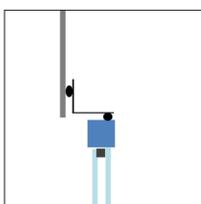

Fig 1. Membrane applied to head of frame
- The appropriate width of membrane to suit the window frame thickness and projection from front face of backing wall should be selected, allowing a minimum of 70mm cover onto the window frame and backing wall (see fig.1). If the frame is only 70mm, the cover can be reduced to 50mm minimum.